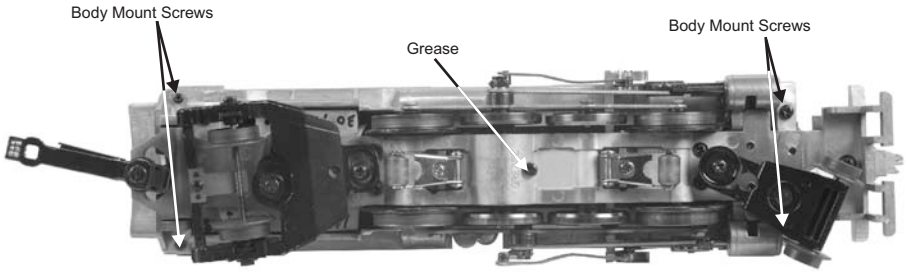

Figure 9: Body Mount Screws and Grease Points
2. Remove the boiler by removing the body mounting screws shown in Fig. 9
3. Remove the Phillips screws (marked “GREASE” (Fig. 9)) and the gearbox cover screws.
You should also grease the leading and trailing locomotive truck tongues to enhance their ability to slide on the chassis. Follow the grease points shown on Fig. 9.